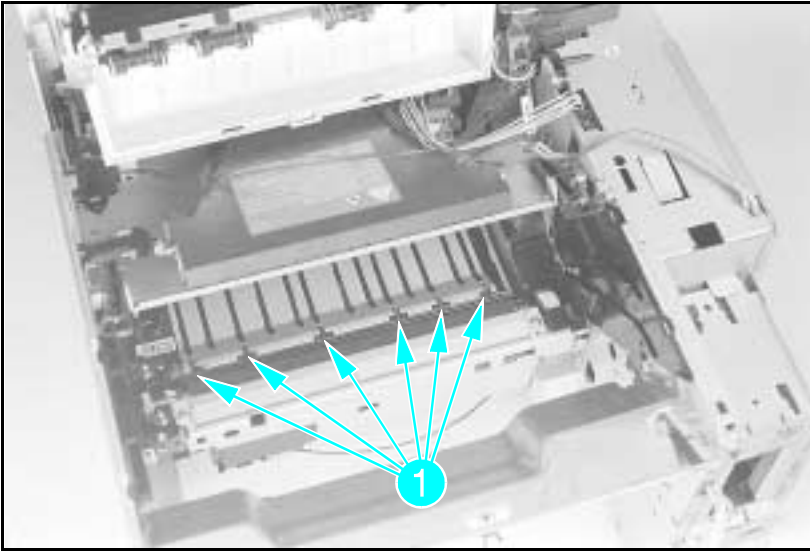

Figure 6-53 Paper Guide Rollers
- 3** Remove the (6) rollers from the High Voltage Contact Plate (see Figure 6-53 callout 1).